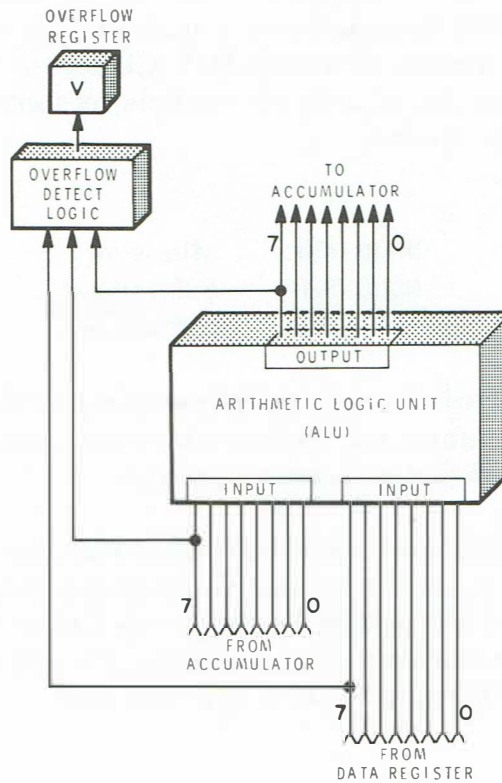

Figure 5-10
**Overflow (V) Register** The final condition code that is to be considered in this unit keeps track of two's complement overflow. Figure 5-10 shows how this register is connected in the MPU. A special circuit detects an overflow condition by monitoring bit 7 of the ALU's input and output lines. This circuit sets the V flag when an overflow occurs but clears it if no overflow occurs.